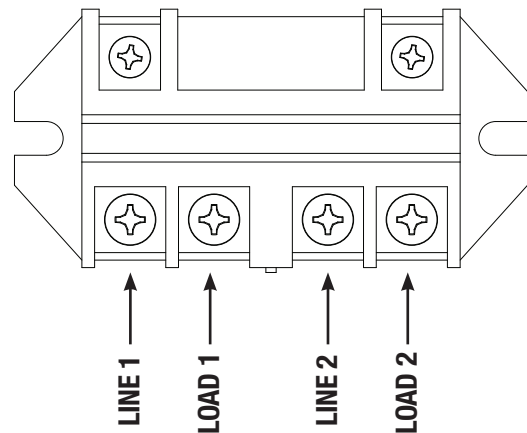
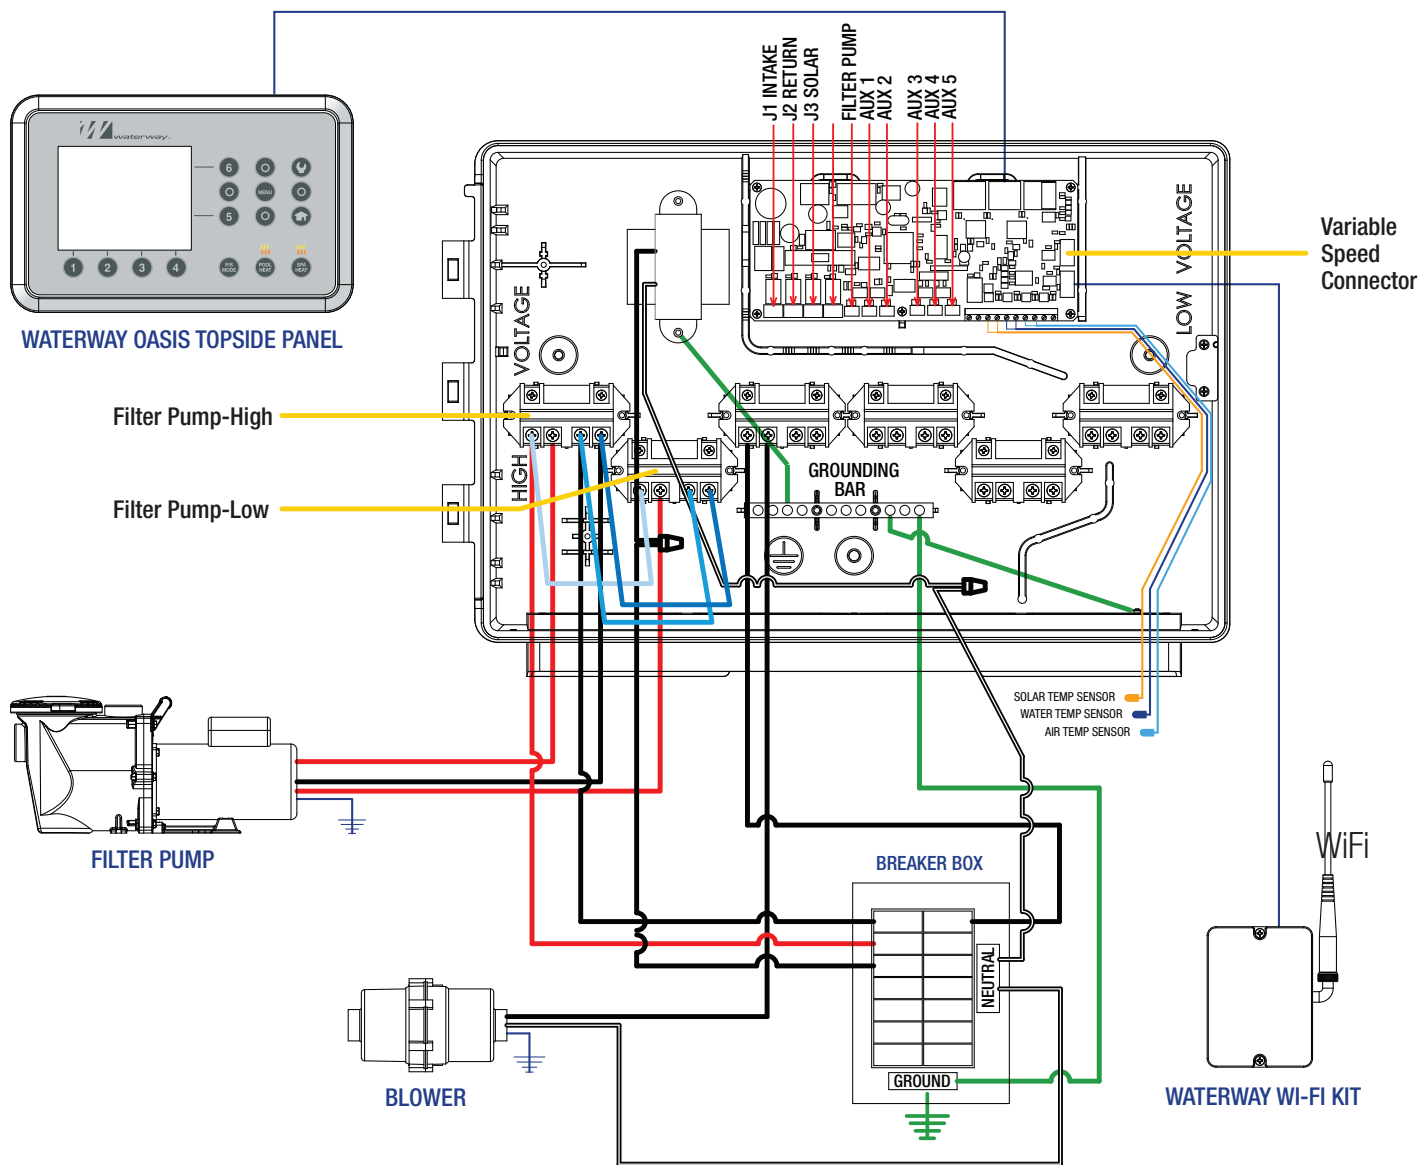

Figure 3. Filter Pump Relay
Figure 10.1. OASIS Controller Electrical Wiring Diagram for 2-Speed Pump
- Connect “Load” to Relay 1 Load 1 and Relay 1 Load 2 (see Figure 3).
- For 240V from power source connect “Lines” to Relay 1, Line 1 and Relay 1, Line 2 on. Aux 1 relay connect power source to line 1 (See Figure 3 and Figure 10.1 – page 11)